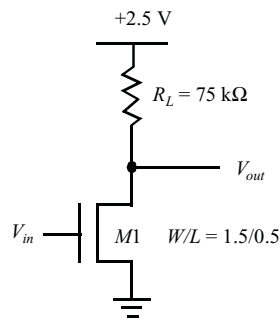

Figure 5.3 Resistive-load inverter
3. [M, SPICE, 3.3.2] Figure 5.3 shows an NMOS inverter with resistive load.
4. [E, None, 3.3.3] For the inverter of Figure 5.3 and an output load of 3 pF: